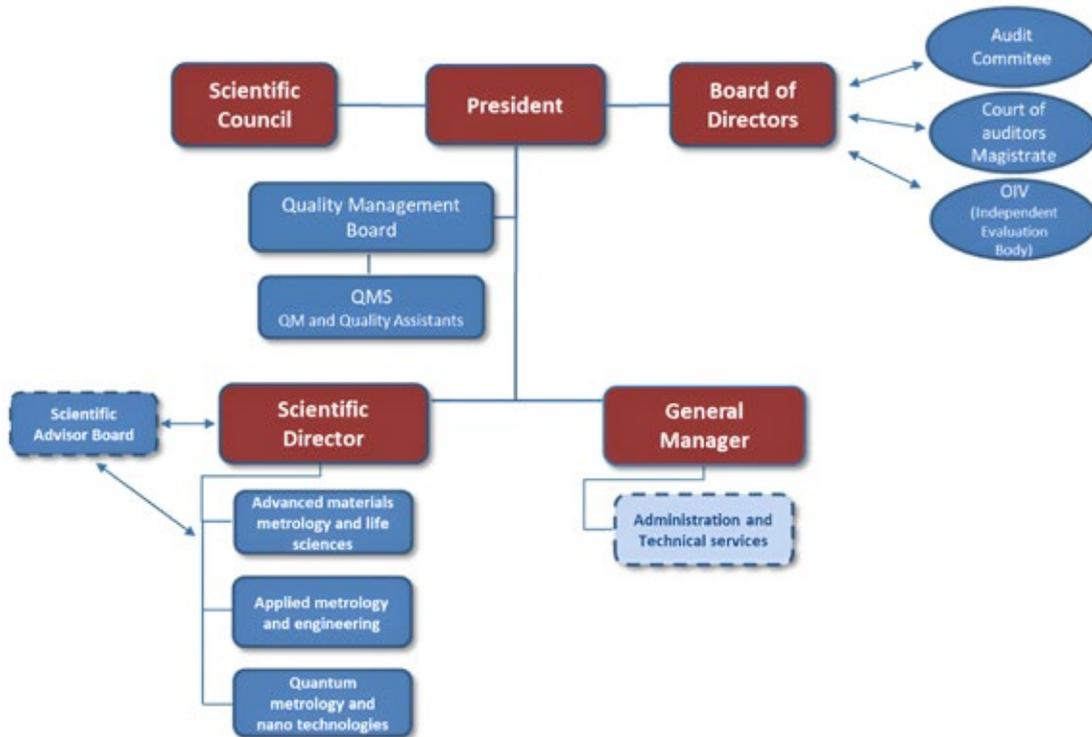

Figure 1. INRiM Organization chart.
INRiM is a national public scientific research organization (Figure 1) supervised by the Ministry of University and Research. It serves as Italy's NMI. INRiM was established in 2006 merging the Istituto Elettrotecnico Nazionale "Galileo Ferraris" (IEN) with the Istituto di Metrologia "Gustavo Colonnetti" (IMGC). INRiM performs scientific research in metrology and develops advanced measurement standards and methods. As a signatory participant of the CIPM-MRA, INRiM maintains the national standards to ensure the metrological traceability and legal validity of the measurements across industry, commerce, scientific research, healthcare, and environmental protection. The INRiM NMI Role encompasses metrology activities for both internal and external clients, including C&T, ILCs provider and RMs production. INRiM also is active in the knowledge transfer (KT) and advancements in measurement and materials science, aiming to enhance national technology, quality of life, and public services. The INRiM scientific structure is led by a Scientific Director, and it is organized into three Departments:
- Applied metrology and engineering (AE);
- Metrology of innovative materials and life sciences (ML);
- Quantum metrology and nanotechnology (QN).